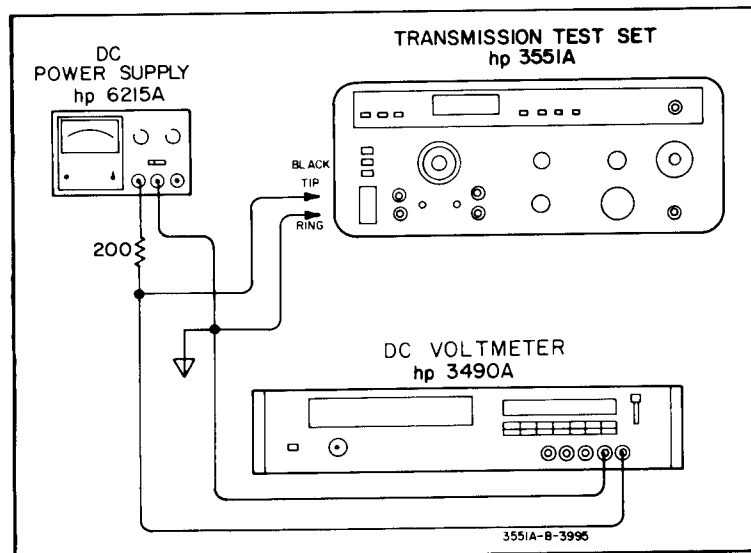

Figure 5-8. Holding Loss Test Setup.
a. Connect the equipment as shown in Figure 5-8 with the Test Set disconnected.